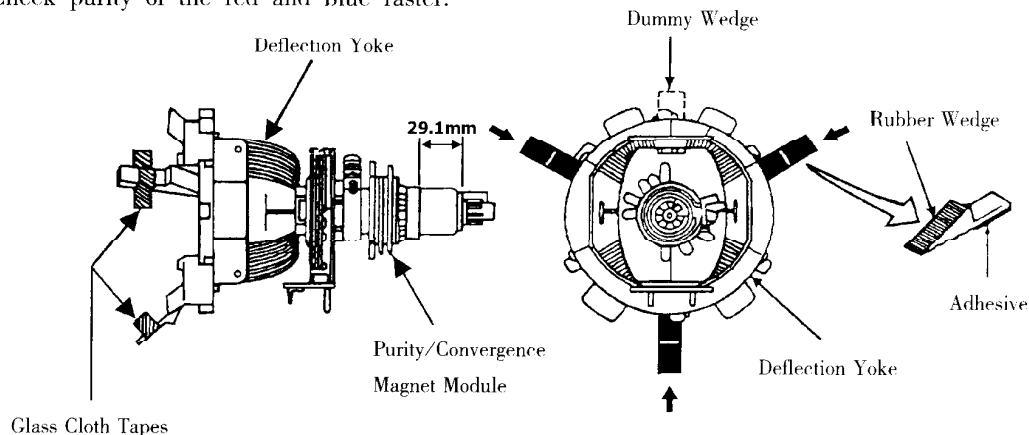

Fig. 14
- 2) Temporarily put a wedge as shown in Fig.14. (Do not remove cover paper on adhesive part of the wedge.)
9) Stick three adhesive tapes on wedges as shown in Fig. 14.